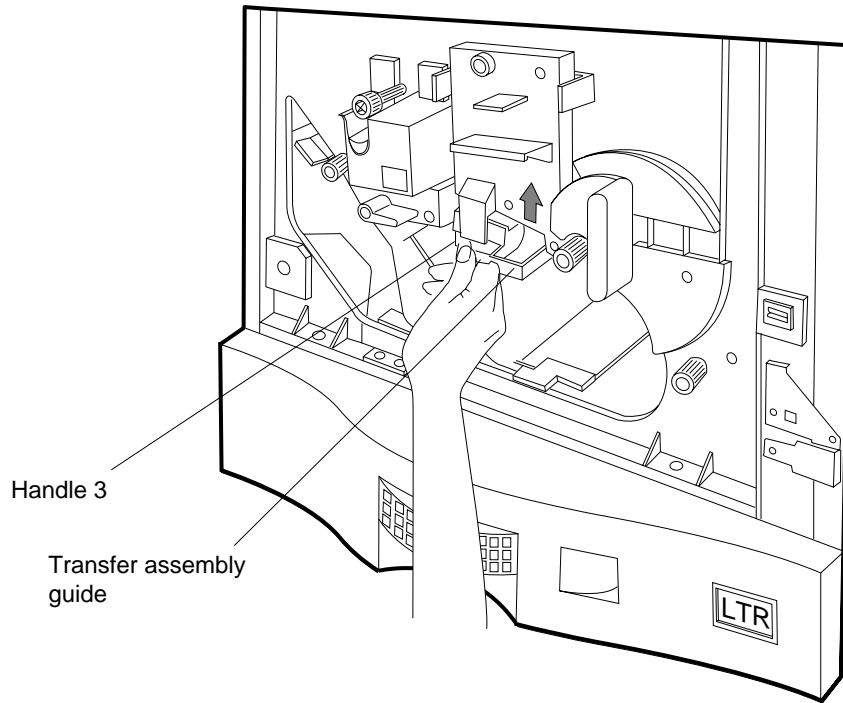

Figure 5-12 Securing the Transfer Assembly
2. Secure the transfer assembly by lifting Handle 3, as shown in Figure 5-12.